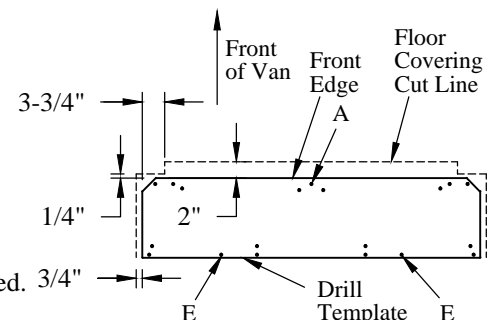

Figure 5: Floor covering cut location (top view).
6. **Mark** the floor covering around the template, leaving clearance as shown (Figure 5).